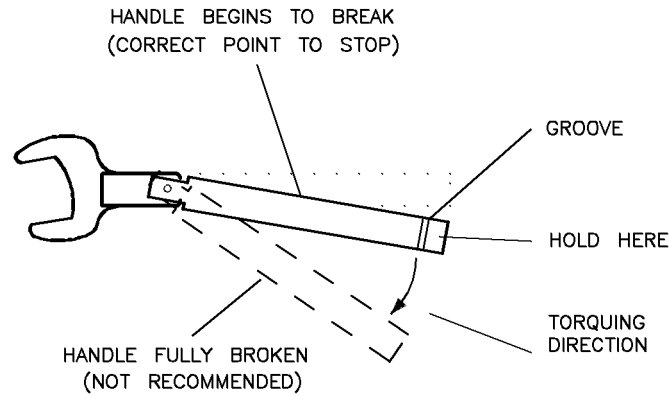

Figure 4-10. Using the Torque Wrench
3. Hold the torque wrench lightly, at the end of the handle only (beyond the groove). (see Figure 4-10).
5. Tighten the connection just to the torque wrench “break” point. The wrench handle gives way at its internal pivot point (see Figure 4-10). Do *not* tighten the connection further.